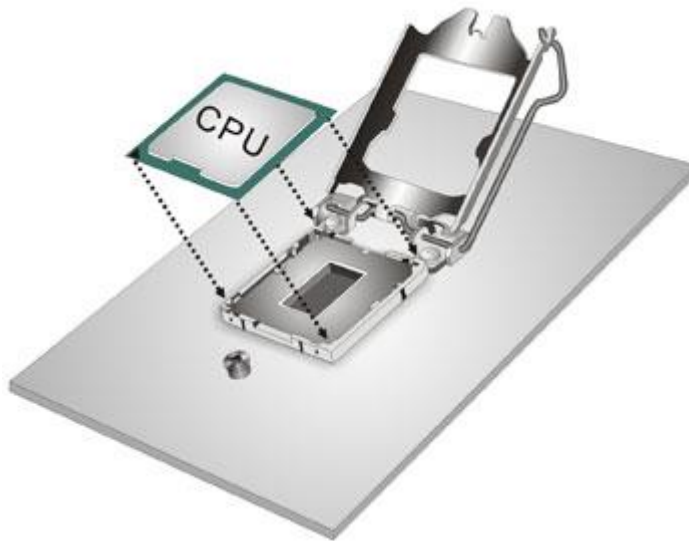

Figure 4-3: Insert the Socket LGA1200 CPU
Step 7: Insert the CPU. Gently insert the CPU into the socket. If the CPU pins are properly aligned, the CPU should slide into the CPU socket smoothly. See **Figure 4-3**.